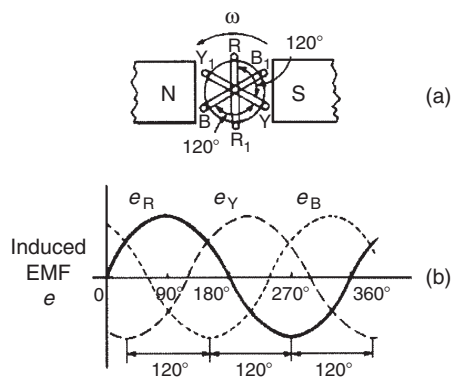

Figure 20.2
A **three-phase supply** is generated when three coils are placed 120° apart and the whole rotated in a uniform magnetic field as shown in Fig. 20.2(a). The result is three independent supplies of equal voltages which are each displaced by 120° from each other, as shown in Fig. 20.2(b).
- (i) The convention adopted to identify each of the phase voltages is: R-red, Y-yellow and B-blue, as shown in Fig. 20.2
currents (I_L) and the p.d.s between them are known as line voltages (V_L). A fourth conductor, called the **neutral** (coloured black, and connected through protective devices to earth) is often used with a three-phase supply. If the three-phase windings shown in Fig. 20.2 are kept independent then six wires are needed to connect a supply source (such as a generator) to a load (such as motor). To reduce the number of wires it is usual to interconnect the three phases. There are two ways in which this can be done, these being: